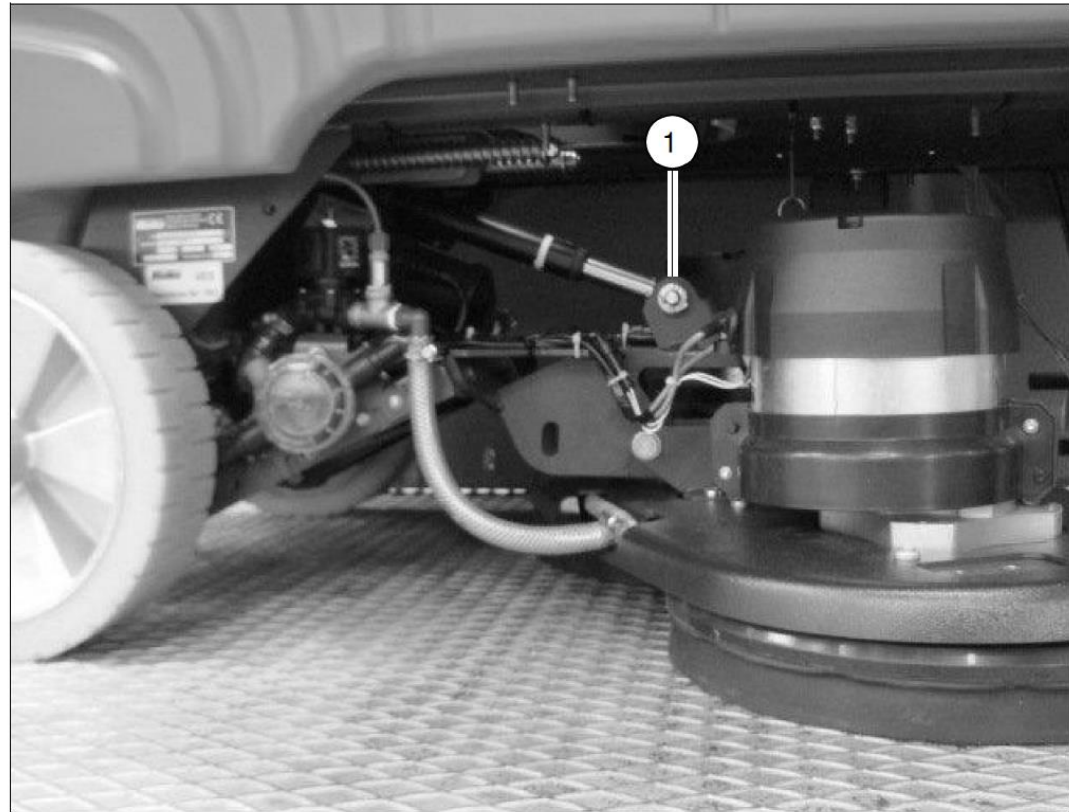

Fig.2
5. Disassemble the cotter bolt (Fig. 2/1) from the brush head.